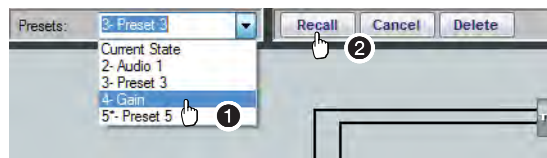

Figure 57. Recalling a Preset
1. Select the desired preset in the **Presets** drop-down box (see figure 57).